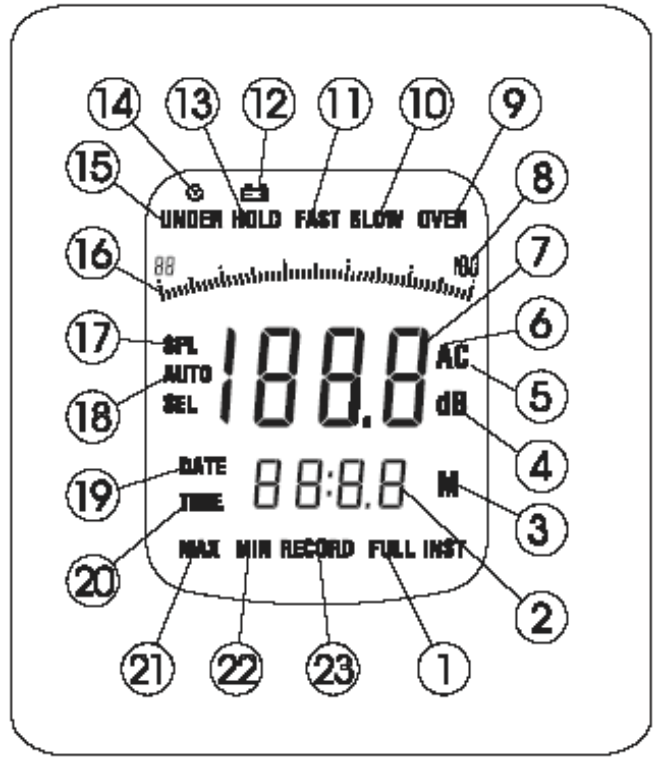

figure 2
B.Display Symbols (see figure 2)